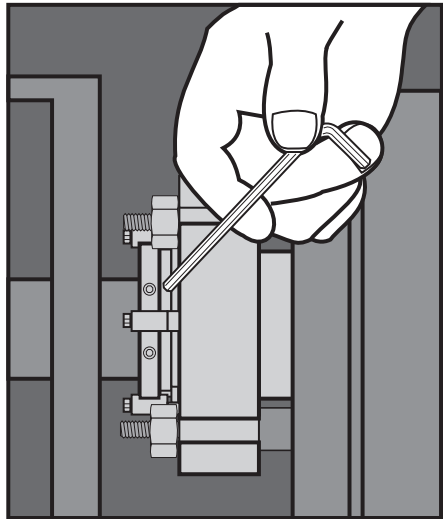

Figure 9
2.7 With the impeller, shaft, coupling, and bearings in their final operating positions, **tighten the CPM PP set screws** (57). See Figure 9.